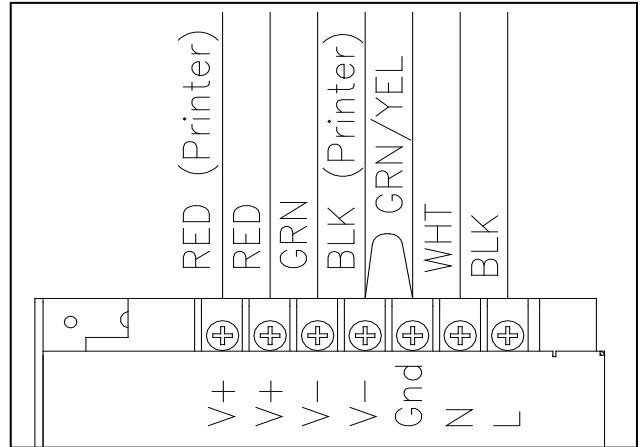

Figure 3-23. 24 VDC Power Supply
6. Visually check wiring on Power Supply. (Figure 3-23)